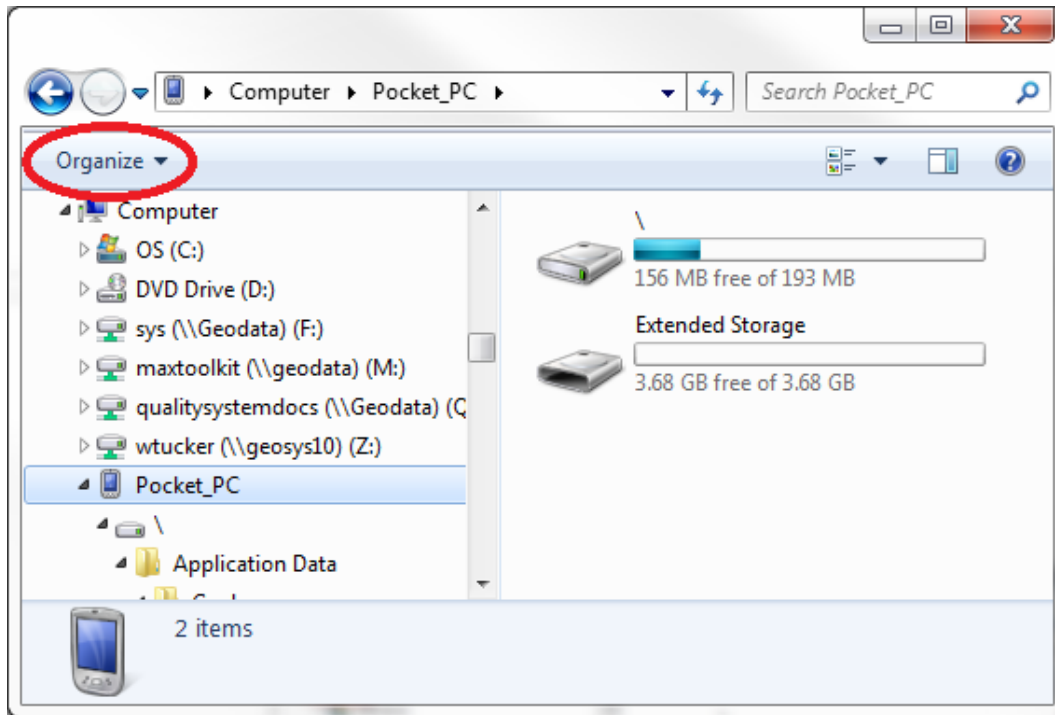

Figure 8 - Windows Explorer (Pocket_PC shown)
2. Click on the Organize button (see Figure 8).